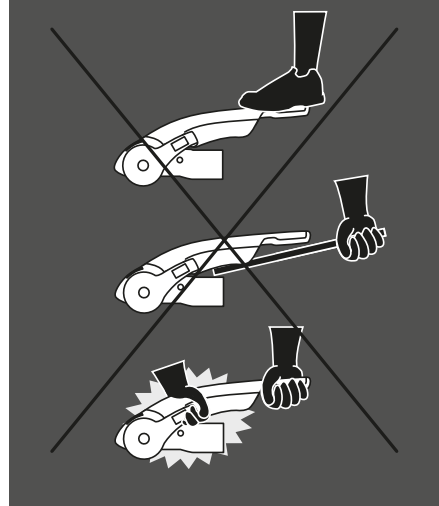

Figure 11 - How not to operate the stabiliser handle
5. ALWAYS rotating the road wheel in the forward direction - NEVER backwards; adjust the starwheel with a suitable screwdriver, in the direction of the arrow embossed on the backplate until there is resistance in the wheel rotation. (Fig. 11).
6. Slacken off the starwheel adjuster until the road wheel turns freely in the FORWARD direction. (Fig. 11).